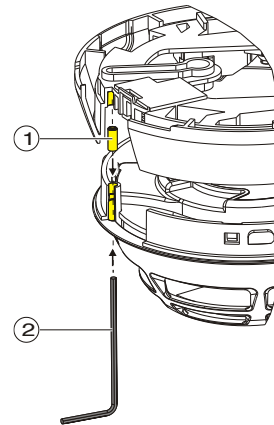

Fig. 7
- **Detector locking device LP720 (Fig. 7)**
Insert the hexagonal wrench provided in the bore hole on the detector housing and tighten the grub screw (Fig.7).